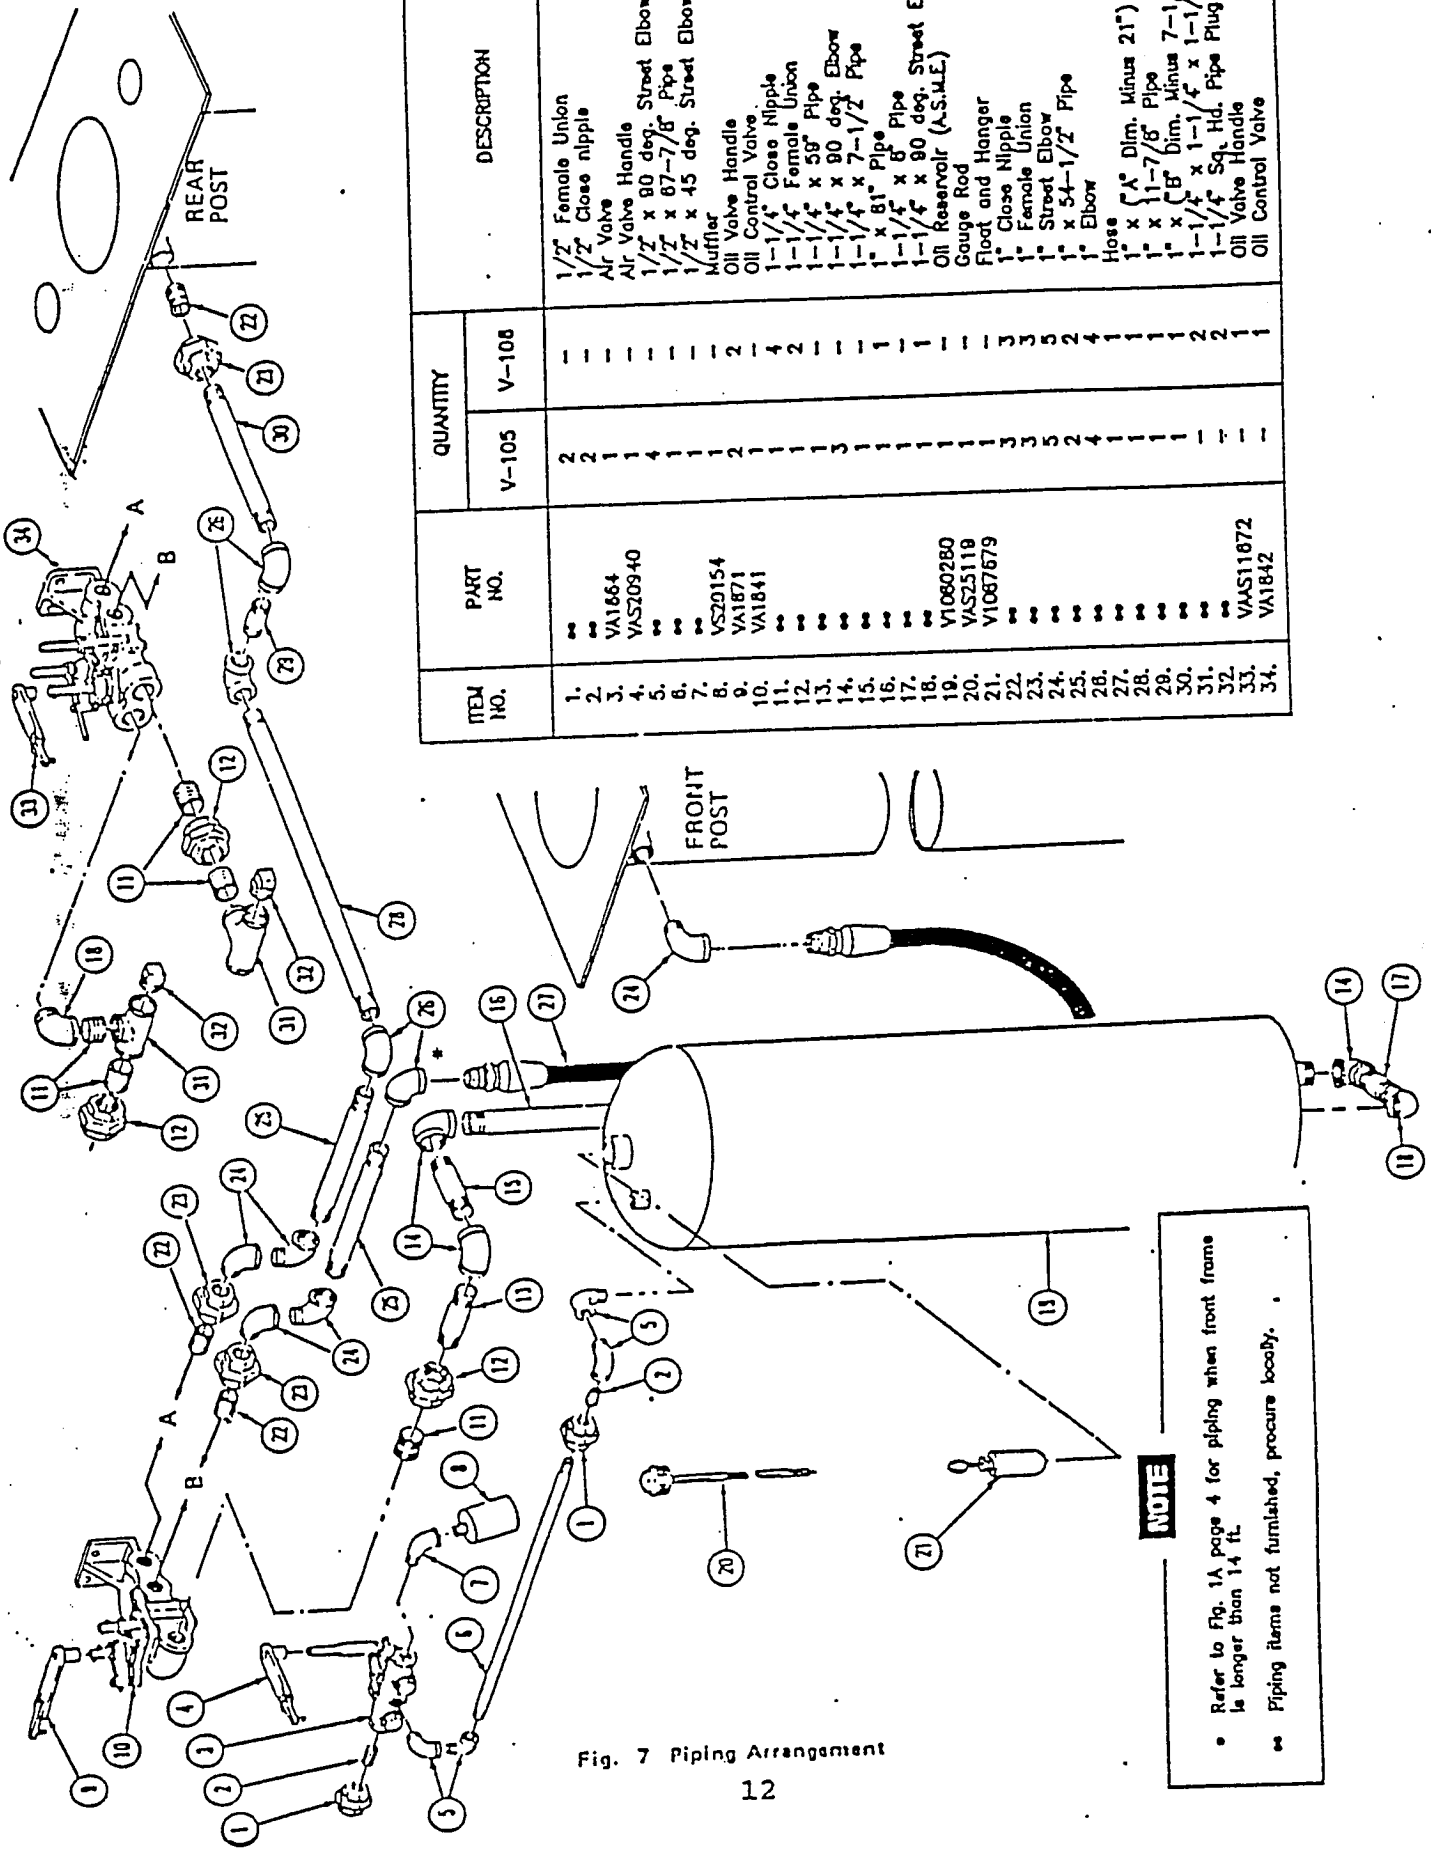

Fig. 7 Piping Arrangement
V106 MODELS: Bring in 1-1/4 in. oil pressure and return lines through proper holes in control box end panel. See Fig. 4 for proper holes and dimensions. Connect lines to oil control valve with fittings furnished (Fig. 7). Mount valve to side wall with 1/2 in. x 1-1/4 in. capscrews and lockwashers furnished.
1. Attach oil control valve in control box with 1/2 in. capscrews (Fig 11) and install oil reservoir (if required), piped from bottom as shown in Fig. 7, with 1/2 in. coupling towards front Figs. 1 & 7. Connect oil line from reservoir to control valve. Reduce to 1-1/4 in. at valve. Shim reservoir so that no strain is exerted on piping.
5. Run piping from control valve to rear cylinder Figs. 7 & 11.
7. Run piping and hose from control valve to front cylinder Fig. 7.
A. AIR-OIL LIFTS: Place air control in exhaust position. Refer to Fig. 7. With gauge rod assembly (20) and hanger assembly (21) removed, fill reservoir (19) with oil (a portion of the approx. 85 gal. can't be added until completion of step 17). Insert hanger assembly (21), insert and tighten gauge rod assembly (20).